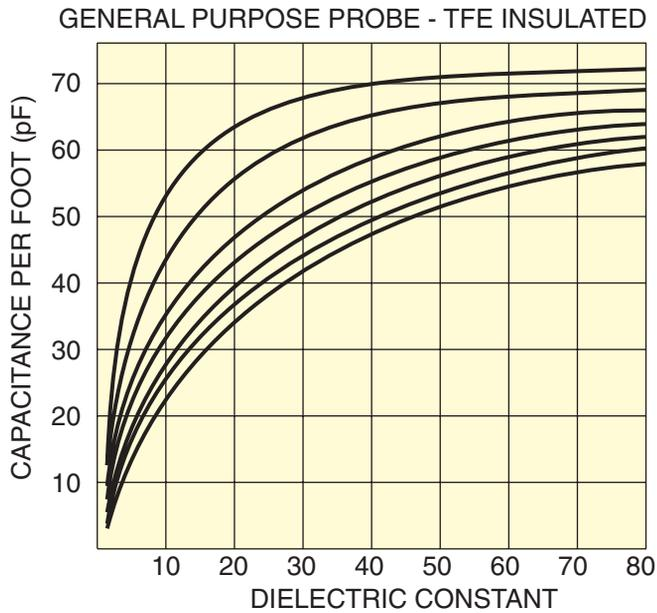

Figure 4
- Electrode Selection**—The electrode is the primary measuring element and must be capable of producing sufficient capacitance change as it becomes submerged in the measured material. Several electrode types are offered, each having specific design characteristics. Capacitance (per foot of submersion) vs. dielectric constant curves are published for each type as installed in various size vessels. For non-conductive materials, these curves are non-linear. Figure 4 shows a typical set of curves. As the size of the tank gets smaller, the capacitance per foot of submersion increases. A conductive material essentially makes the tank be the size of the electrode insulation.
4. **Composition**—The dielectric constant of the measured material must remain constant throughout its volume. Mixing materials with different dielectric constants in varying ratios will change the overall dielectric constant and the resultant capacitance generated. Solutions having a high dielectric constant are less affected due to the saturation capacitance of the electrode system. See capacitance vs. dielectric constant curve in Figure 4.